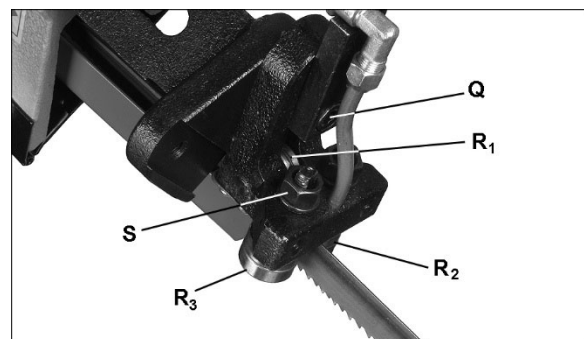

Figure 8-9: blade guide setting
2. Loosen bolt (Q, Figure 8-9) and adjust assembly so that rear bearing ( $R_1$ ) is approximately 0.002 to 0.003 inches from back of blade. Also, inside bearing ( $R_2$ ) should very lightly contact blade. Tighten bolt (Q).
3. Inside bearing ( $R_2$ ) is fixed. Outside bearing ( $R_3$ ) rotates on an eccentric shaft. Rotate nut (S) with 14mm wrench to adjust eccentric bearing to a clearance of 0.001 inches from blade.
3. If there is a gap, loosen bolt (Q, Figure 8-9) on each blade guide assembly and rotate blade guide assembly until gap is eliminated between square and ruler.
4. Retighten bolts (Q, Figure 8-9).